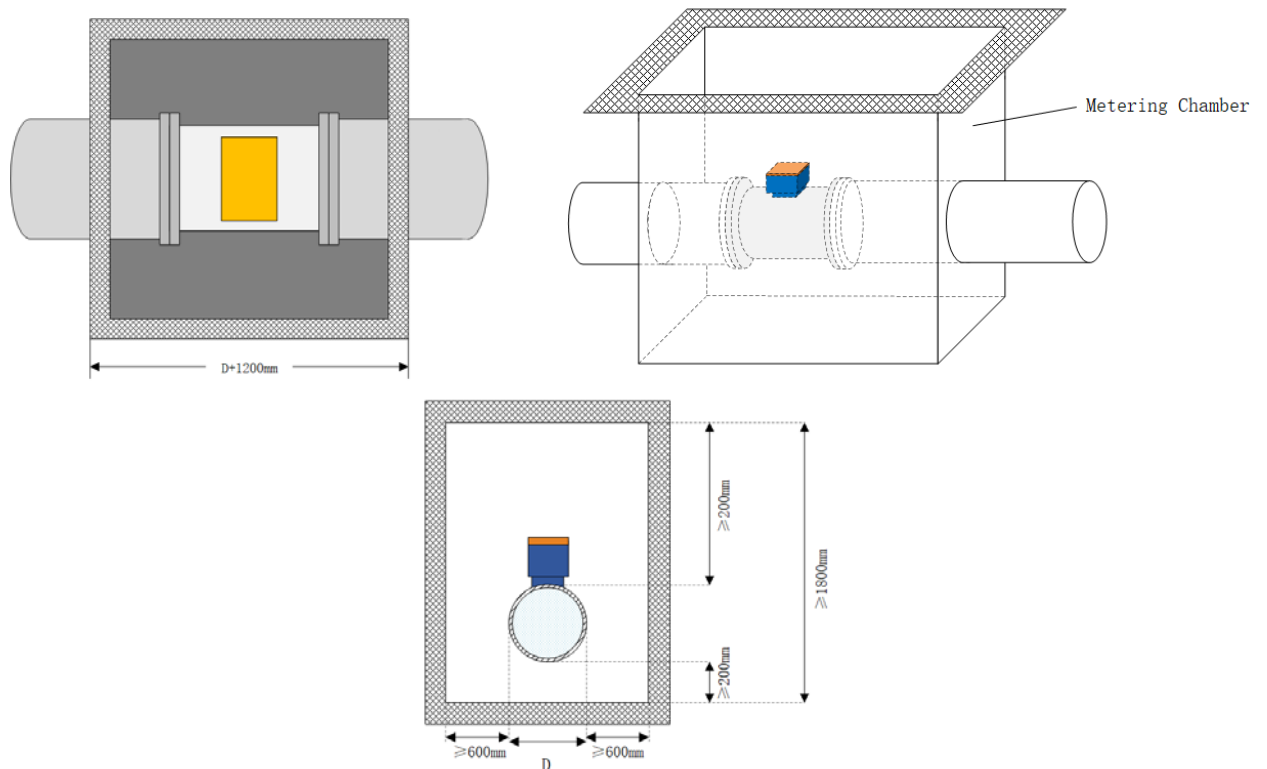

Figure 4 In-Chamber Installation Suggestion
- ☑☑ Inside the chamber, the distance from pipe wall to the chamber wall should be controlled above 600 mm, and the chamber wall-to-wall distance should be at least $(D+600*2)$ mm, and the distance should be greater than $(D+700*2)$ mm for cement pipes. The axial length of the chamber, L, should be greater than $(D+1200)$ mm. See Figure 4.